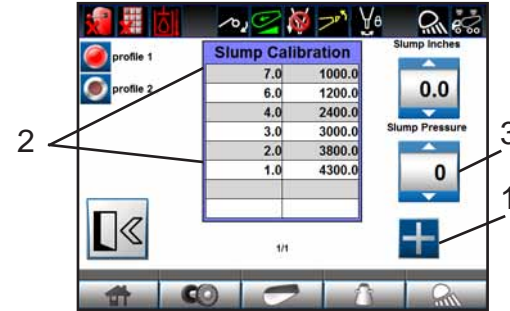

Figure 46
1. Enter the slump calibration screen. Touch the “+” sign to add additional slump indication points (Figure 46, Item 1).